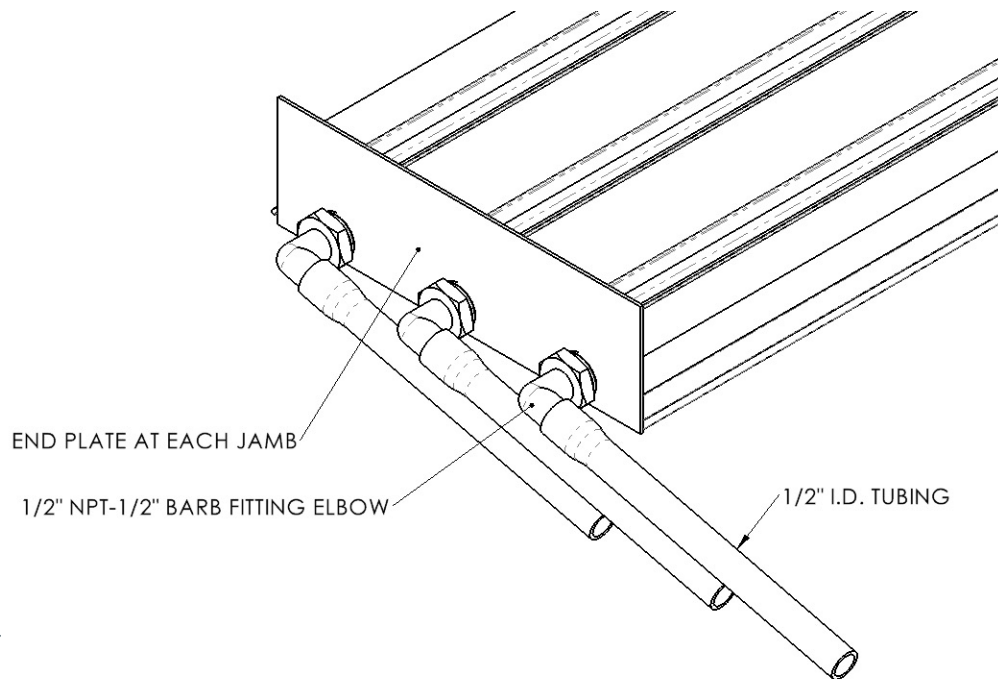

Figure 5
- Side Drain Fitting Sill (See Figure 5).
Screw the ½" NPT pipe to ½" hose barb fittings using tread sealant or Teflon tape to the ends of each track. Push fully the ½" minimum inside diameter hoses onto the barbed fittings and route to an appropriate drainage location, ensuring that the hoses have a continuous downward slope of at least ¼" per foot. (See Figure 5). Skip to step 10.